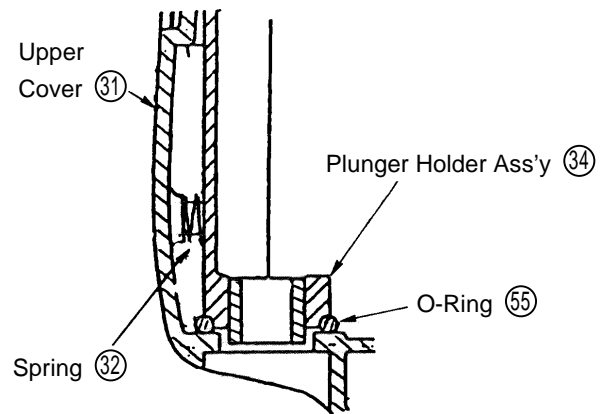

Fig. 17
- (6) When installing the Plunger Holder Ass'y ③④ in the Upper Cover ③①, ensure that the O-Ring ⑤⑤ is properly mounted at the lower portion of the Plunger Holder Ass'y ③④, as shown in Fig. 17. Also, ensure that the two Springs ③② are properly mounted between the Plunger Holder Ass'y ③④ and the Upper Cover ③①.